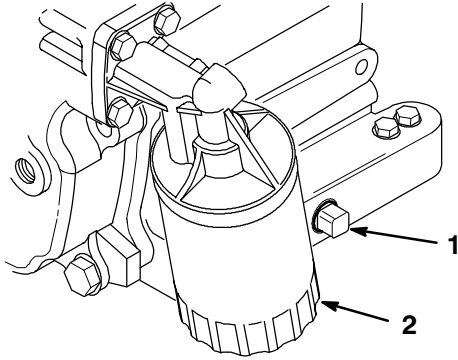

Figure 17
- Remove the drain plug (Fig. 17) and let the oil flow into a drain pan. When the oil stops, reinstall the drain plug.
2. Remove the existing oil filter (Fig. 17). Apply a light coat of clean oil to the new filter gasket.